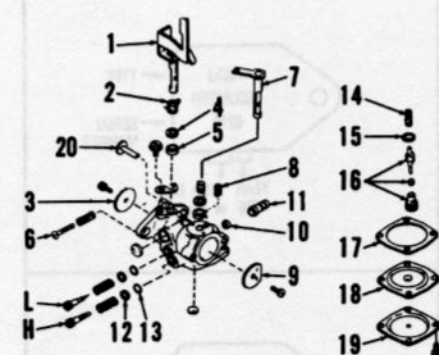
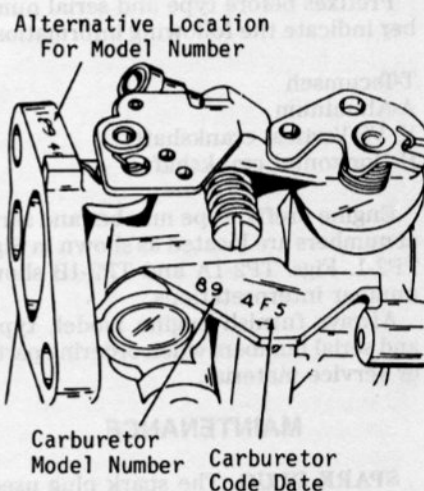

Fig. TP2-3—Exploded view of typical Tecumseh diaphragm type carburetor. Some models do not use fuel pump (20) and check valve (10).
Fig. TP2-4—View showing location of carburetor identification number on Tecumseh diaphragm type carburetor.
Tecumseh Diaphragm Type Carburetor. Refer to Fig. TP2-3 for identification and exploded view of Tecumseh diaphragm type carburetor. Carburetor identification numbers are also stamped on carburetor as shown in Fig. TP2-4.
Initial adjustment of idle mixture and main fuel mixture screws from a lightly seated position for models with solid adjustment screws (L and H—Fig. TP2-3) is 1 turn open for each mixture screw. There is no initial adjustment for idle and main fuel mixture screws which have a hole in inner end as hole size determines initial fuel mixture. When renewing adjustment screws, make certain hole diameter of replacement screws matches hole diameter of new screw.
When installing diaphragm (18), head of rivet should be against fuel inlet valve (16) regardless of size or placement of washers around rivet. On carburetor Models 0234-252, 265, 266, 269, 270, 271, 282, 297, 303, 322, 327, 333, 334, 344, 345, 348, 349, 350, 351, 352, 356, 368, 371, 375, 378, 379, 380, 404, 405, 441 and all models with "F" embossed on carburetor body, gasket (17—Fig. TP2-3) must be installed between diaphragm (18) and cover (19). All other models are assembled with gasket, diaphragm and cover positioned as shown in Fig. TP2-3.
Two types of fuel pump valves are used. Flap type of valve (Fig. TP2-7) may be located behind plate attached to side of carburetor body. Renew flap type valves after detaching the plate from side of carburetor. Fuel pump valves are pushed into carburetor body of some models (Fig. TP2-3). Clamp the inlet fitting (11) in a vise and twist car-
Carburetors utilizing a remote primer bulb are equipped with a check valve (10—Fig. TP2-3) which is either brass or Teflon. The brass check valve is the same as check valve described in the previous paragraph for fuel pump valve. The Teflon disc type valve is accessible after removing the fuel inlet fitting. Place a drop of oil on disc to hold it in position when installing fitting. Apply Loctite 271 sealer to shank of fuel inlet fitting before pressing fitting into carburetor body.